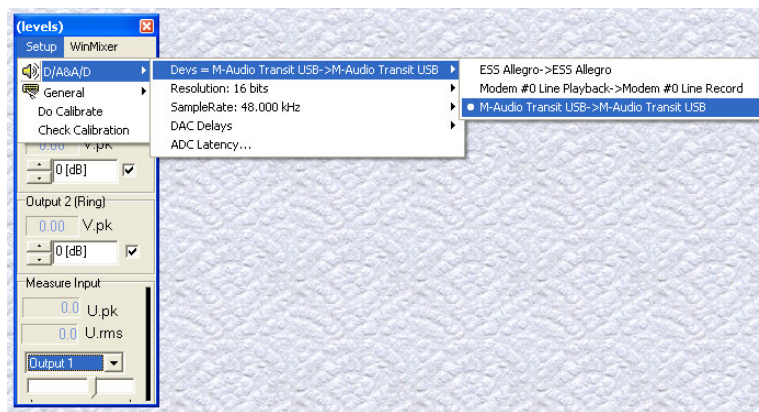

Figure 3: Select default soundcard.
7. Select default soundcard you will use for production testing. Go to the **(levels)** form (See Figure 3) and select **Setup> D/A&A/D>Devs=....** Built-in sound on laptops or modem sound features are seldom, if ever, adequate for measurement purposes.